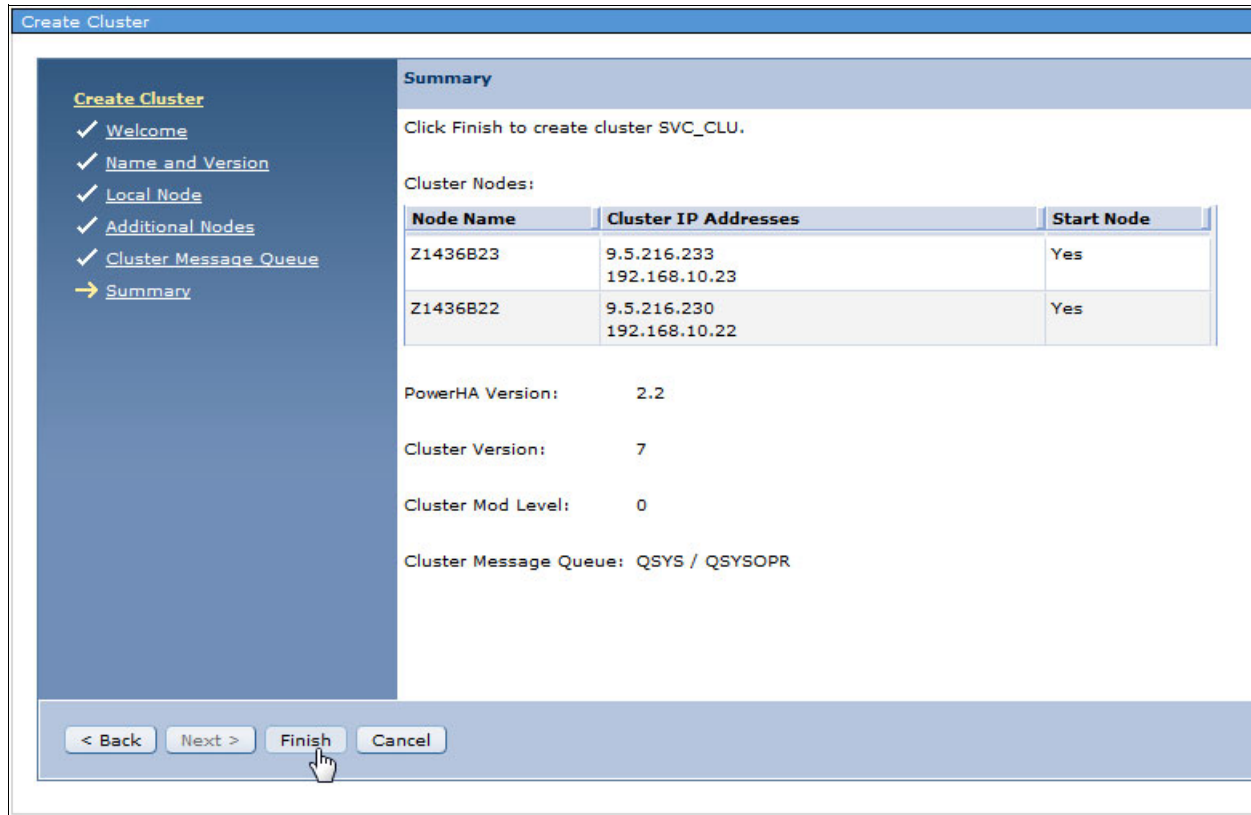

Figure 4-13 Cluster creation summary
10. As shown in Figure 4-13, you see an overview of the configuration options that you chose. Click **Finish** to start the cluster creation.